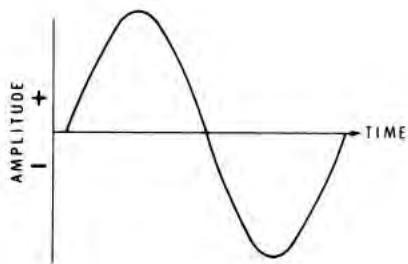

Figure 2-5
3. The waveform shown in Figure 2-5 is a _____.
3. The waveform shown in Figure 2-5 is a **sine wave**.